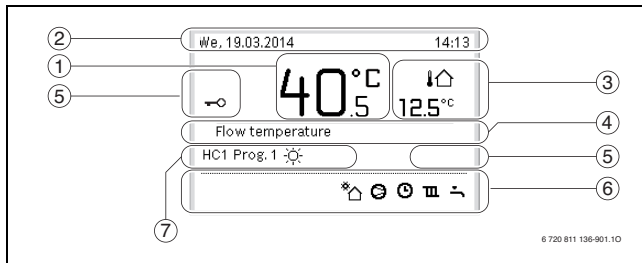

Fig. 4 Symbols in the standard display (example display)
-	Text information: e.g. the designation of the temperature currently displayed (→ Fig. 4, [1]). If a fault is present, corresponding information will be displayed here until the fault has been rectified.
Each of the following descriptions takes the standard display as its starting point (→ Fig. 4).